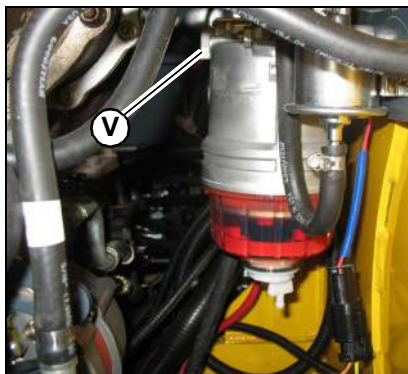

Figure 100 – Water Separator
3. Turn fuel valve lever (V, Figure 100) on the water separator to the OFF position.
6. Turn fuel valve (V, Figure 100) on the water separator to the ON position.